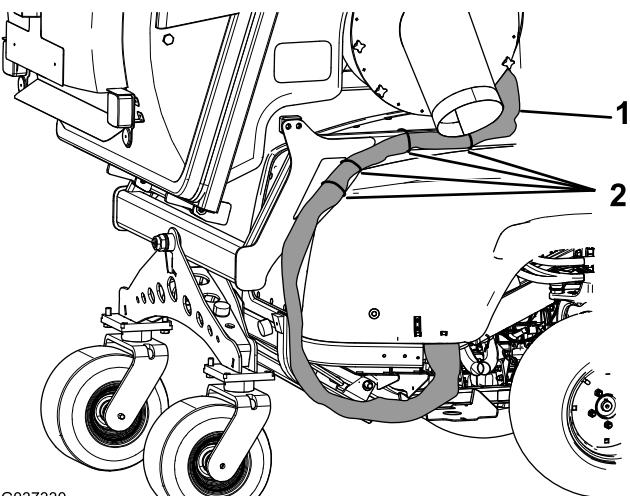

Figure 10
- Route the hydraulic hose and wire harness bundle down to the fittings you installed previously with Kit Model 30801 or 30898 (Figure 10).
3. Secure the bundle to the carrier frame with 4 cable ties in the locations shown in Figure 10.